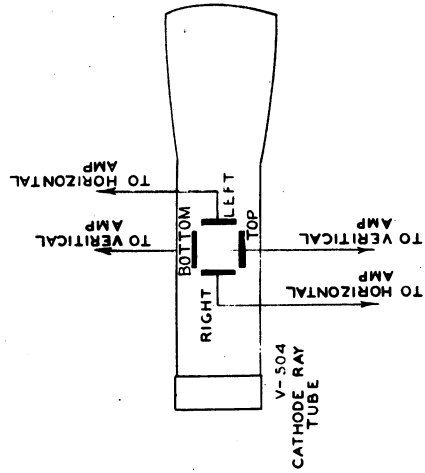
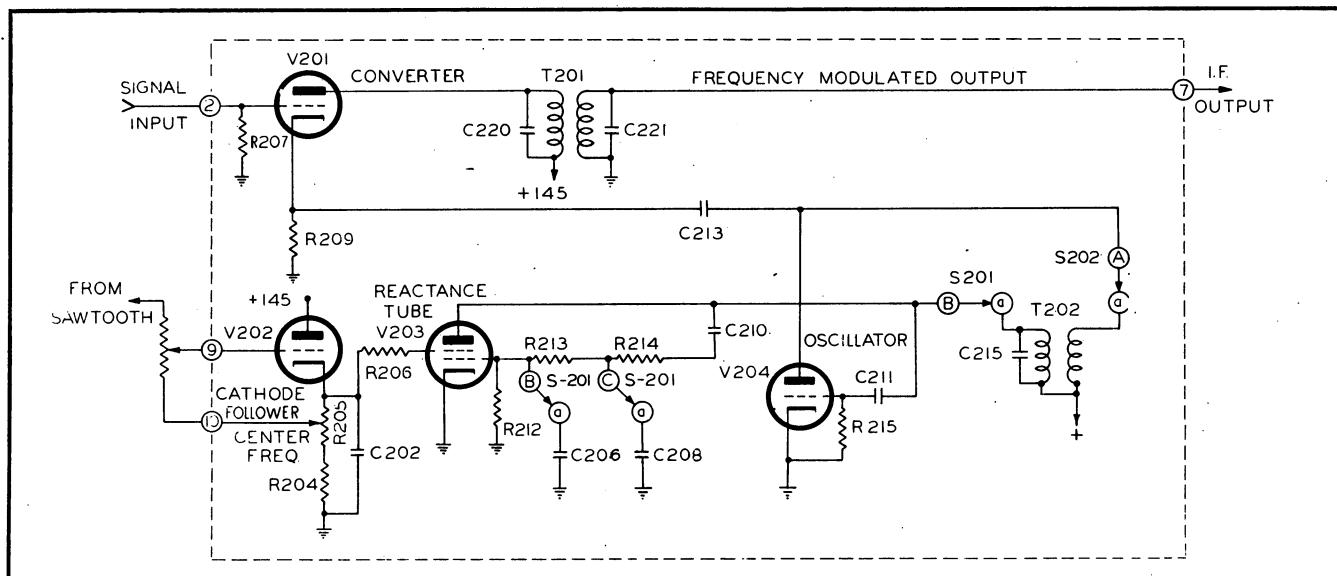

Figure 4-10. Simplified Schematic for Channel A
Figure 4-13. Simplified Conversion Network
(1) This chassis includes a frequency modulated oscillator, a reactance tube, an isolating stage (cathode follower), and a converter tube. The oscillator has three tank circuits, one for each channel A, B, and C. (*See fig. 4-10.*) They are contained in one shield can (T-202). Another can (T-201) contains the i-f input transformer to chassis No. 3 and is located in the output of the converter tube. (*See fig. 4-13.*)
(2) A sawtooth voltage from the cathode ray tube sweep circuit is introduced into the cathode follower. The output of this cathode follower is fed to the screen